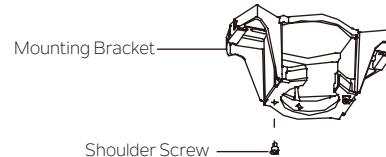

Fig. 6
**Step 2.** Remove one of the two shoulder screws in the mounting bracket and save it for later use. Loosen the second shoulder screw without fully removing it. (Fig. 6)